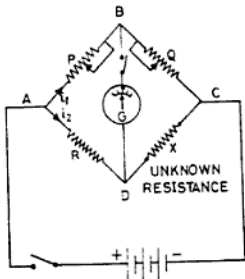

Fig. 9.22 Wheatstone bridge
Figure 9.22 shows the internal connection of a Wheatstone bridge in which there are four resistances, P , Q , R and X (unknown) arranged in the form of a network. A battery is connected to junctions A and C through a switch and a galvanometer (G) is connected to junctions B and D .